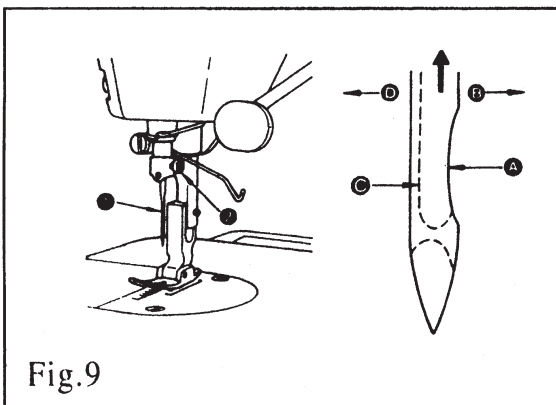

Fig.9
7. ATTACHING THE NEEDLE (FIG. 9)